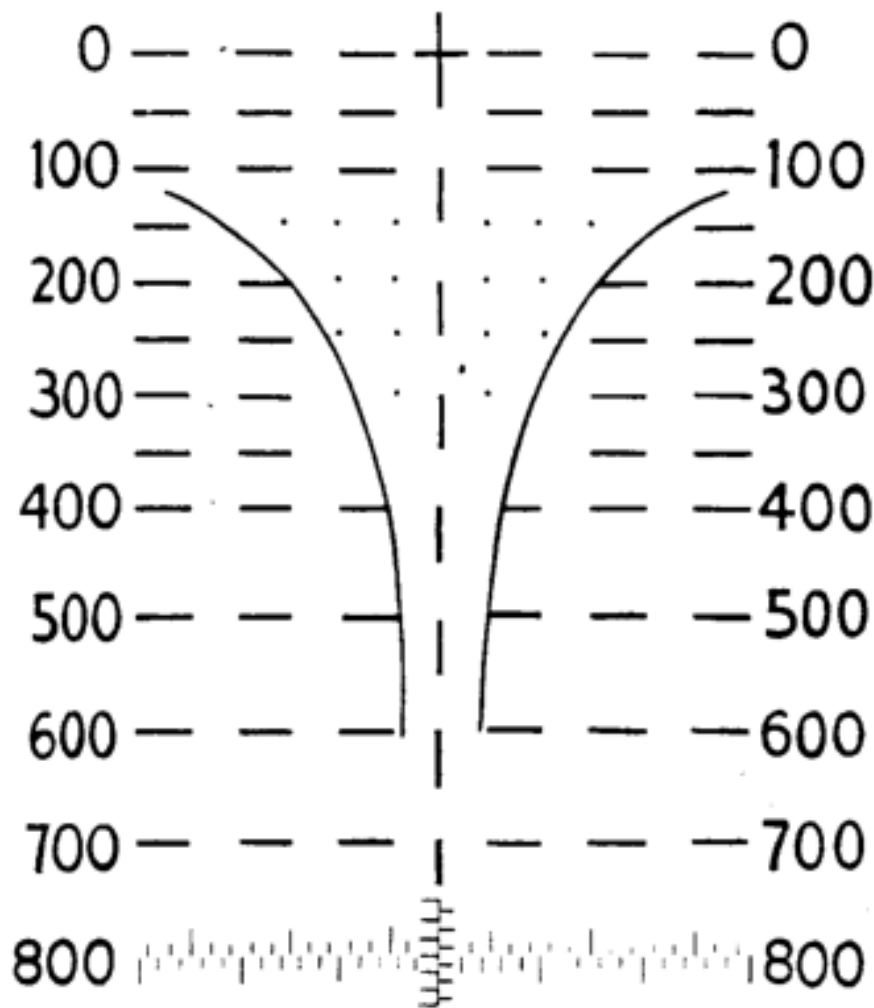

Figure 3. Sight reticle, M103 sight.
- a.* The M103 telescope has a fixed-focus, 3-power magnification, and a field of view of 10° (fig. 3).
the reticle provides a zero cant reference for the telescope so that it may be kept level when boresighting and firing the weapon (fig. 3).